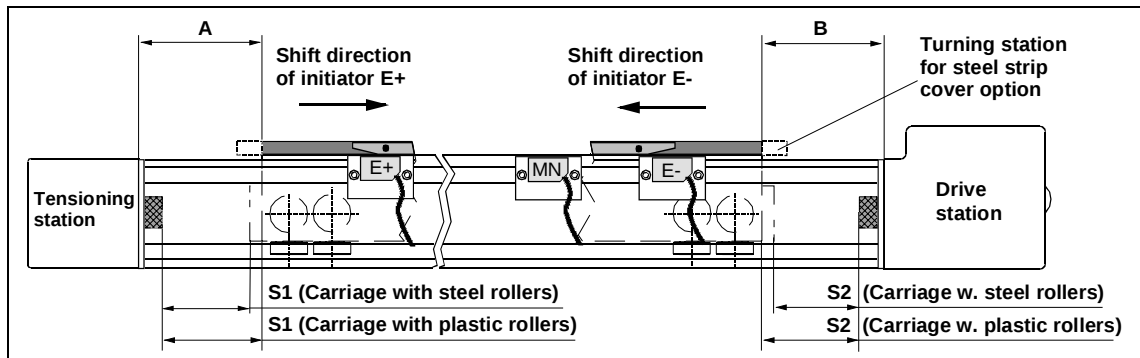

Figure 3: External initiators: setting up end limits and safety distances
2. Arrange the limit switches according to the sequence shown in **Figure 3**.
3. **E-:** Bring the carriage with the load attachment plate into position as Figure 3 and Table 3 (dimension B). Move limit switch E- from the drive station in the direction of the tensioning station until it operates
4. **E+:** Bring the carriage with the load attachment plate into position as in Figure 3 and Table 3 (dimension A). Move limit switch E+ from the tensioning station in the direction of the drive station until it operates